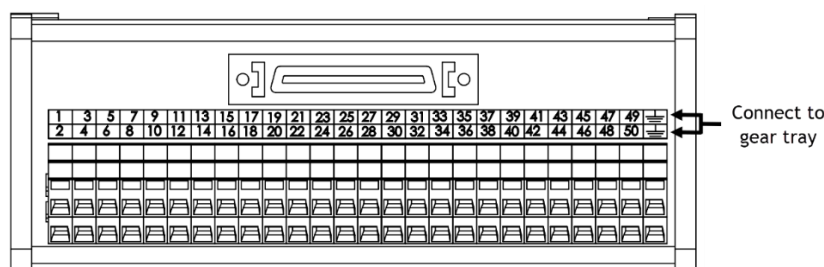

Figure 7-2 I/O Interface Module
- The 24V ground reference (pins 46 and 47) are exposed by two grounding terminals on the right of the module. Terminate these at the gear tray grounding point, using 0.5mm2 to 2.5mm2 conductor, refer to Figure 7-2.